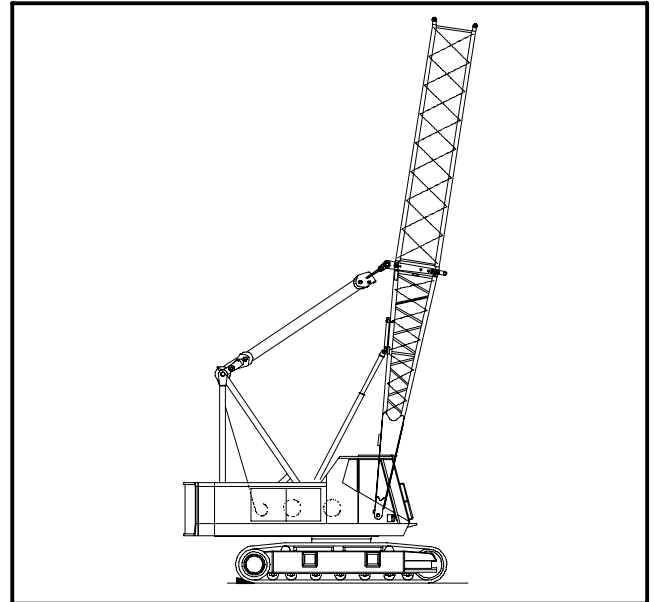

Figure 1–77
4. If using extensions without the top section, connect the bridle to the handling links on the base section. Refer to Figure 1–77.
Refer to Figure 1–78 for Steps 5 through 21.